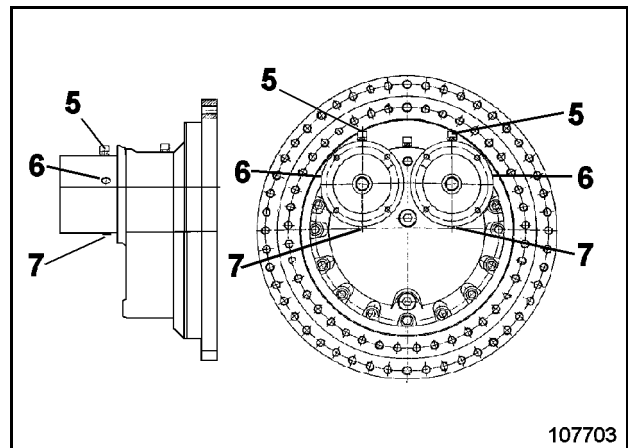

Fig. 3-133:
- Unscrew checking screw (6, Fig. 3-133:).